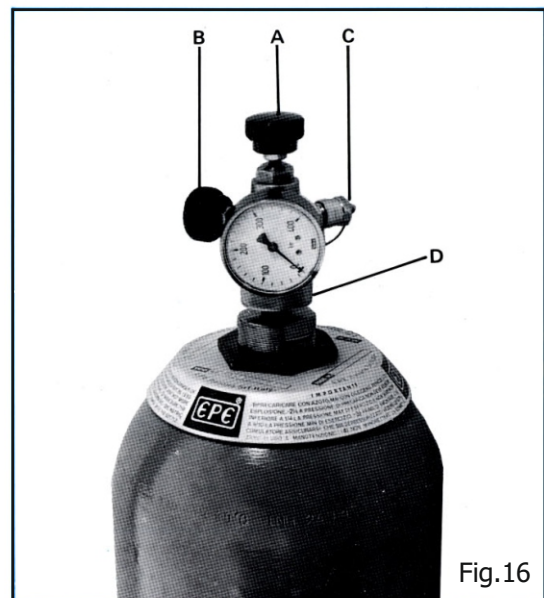

Fig.16
- Prior to the mounting PC/ - equipment ensure that the valve A is unscrewed, that bleed valve B is closed and that is non-return valve C is screwed tight. (refer Fig.16)
- Fit the connection to nitrogen cylinder. (refer Fig.16 & Fig.17)